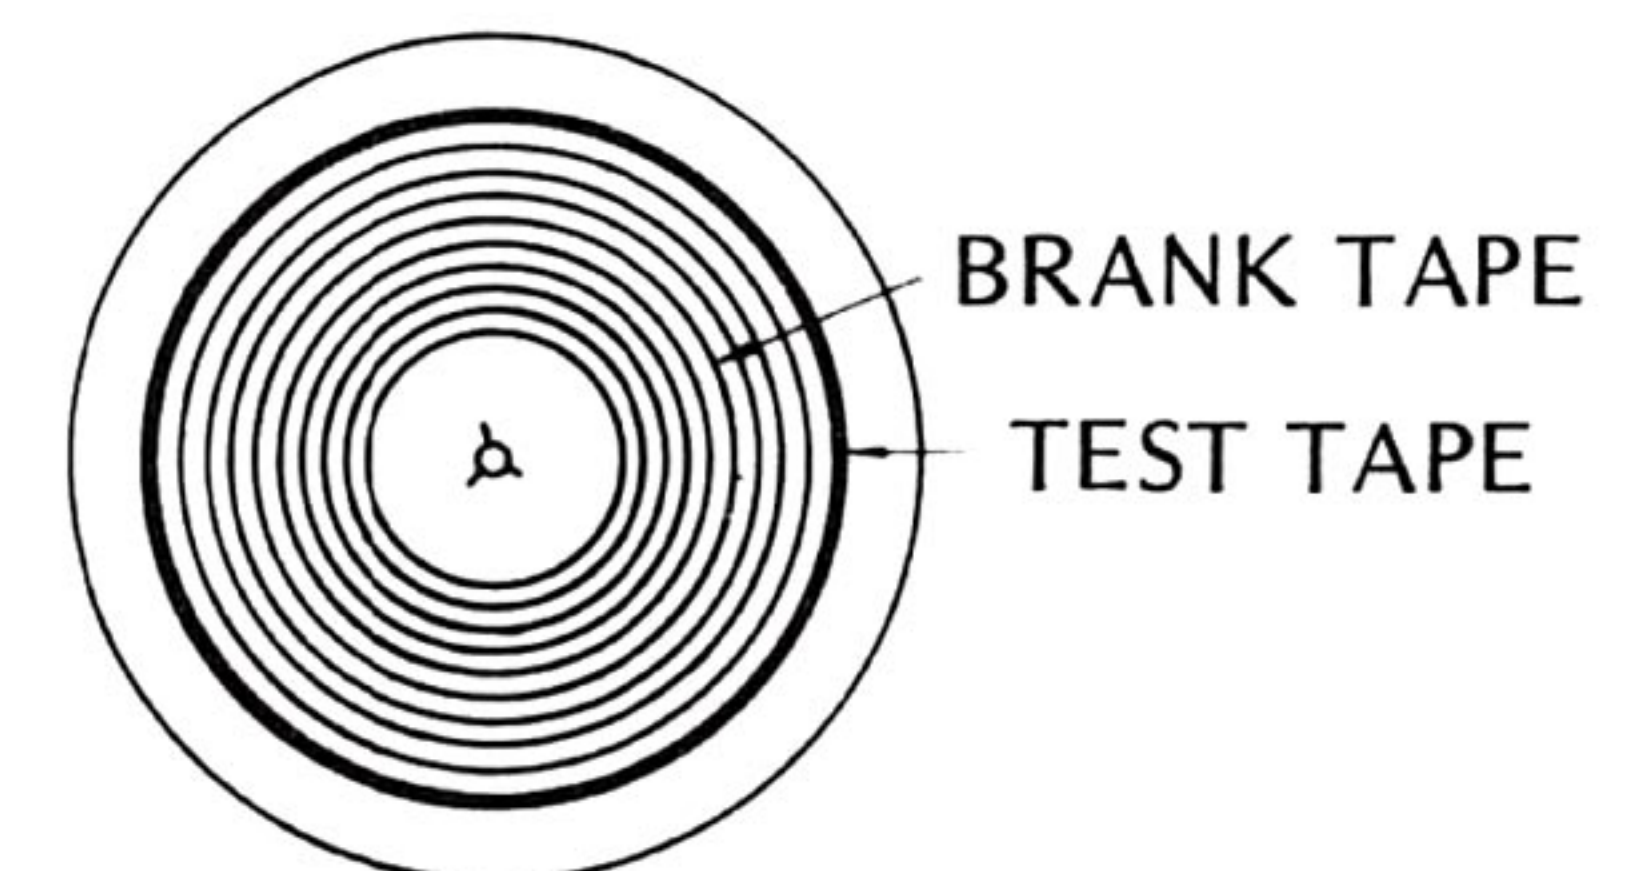

Fig. 3-2 Using Test Tape
Since tape tension affects the tape speed, it is important for accurate measurement that flutter test tape is used to be attached to end of full wound blank tape as Fig. 3-2 and is used with REEL pushbutton to appropriate reel size to be used.
4. Attach test tape to 10½ inch NAB reel as Fig. 3-2, place test tape onto supply reel table, thread the tape, and set REEL switch to L position.
It is important that flutter test tape is used to be attached to end of full wound blank tape as Fig. 3-2, and is used with REEL pushbutton to appropriate reel size to be used.